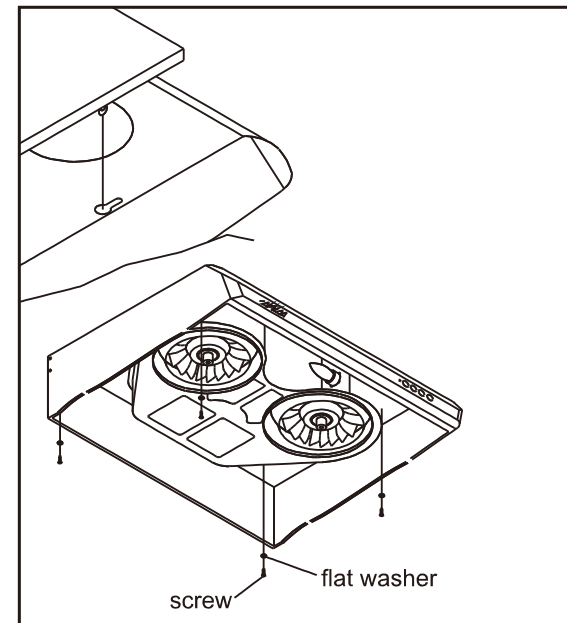

Fig. 13 Fit the keyhole slots over the screws
9. Fit the four wider ends of the keyholes into the four screws on the cabinet, then adjust the hood till the screws are pushed into the narrow part of keyhole slots. Loose e 3/16" washers to screw on together. (Don't screw on too tightly.)(Fig. 13)